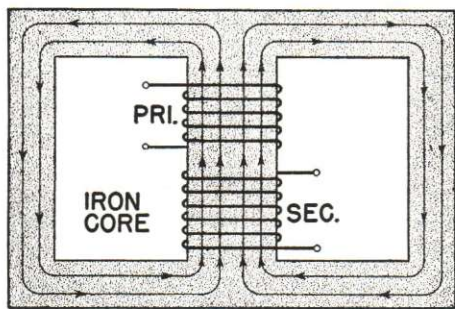

FIG. 17. This diagram illustrates the basic principles of an iron-core transformer. Arrow lines indicate paths taken by magnetic flux.
**Transformer.** The best-known example of a radio part in which changes in flux linkages are secured by changing the coil current is the *transformer*. The basic construction of one type of transformer, an iron-core unit, is shown in Fig. 17 to illustrate the basic principles involved.
When steady direct current is sent through the primary winding, this current produces magnetic lines of force which take the paths shown in Fig. 17. This flux passes through the secondary winding and gives it a definite num-